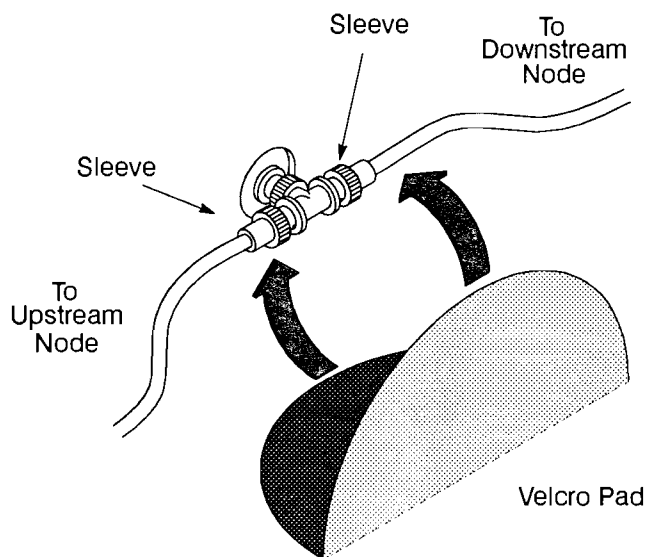

Figure 9-8. Connecting 802.3 Network Cable Ends to the T-Connector
2. Connect the ends of the network cable onto the T-connector as shown in Figure 9-8. Turn the sleeves clockwise one quarter turn until they stop. Attach the velcro pad as shown.